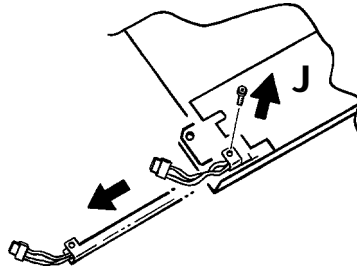

Figure 3d Tube removal
- d. Undo the tube securing screw ('J' in figure 3d) and carefully extract the lamp.